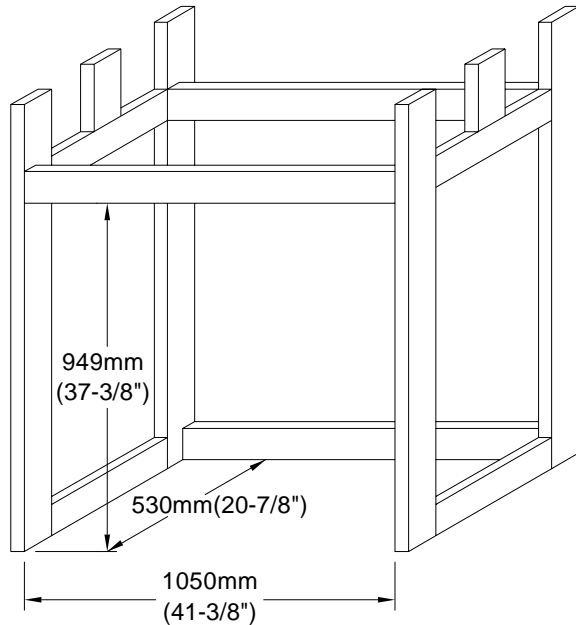

FIGURE 26
1. The fireplace framing and enclosing can be finished with a material of your choice. Figure 26 shows the minimum framing dimensions.